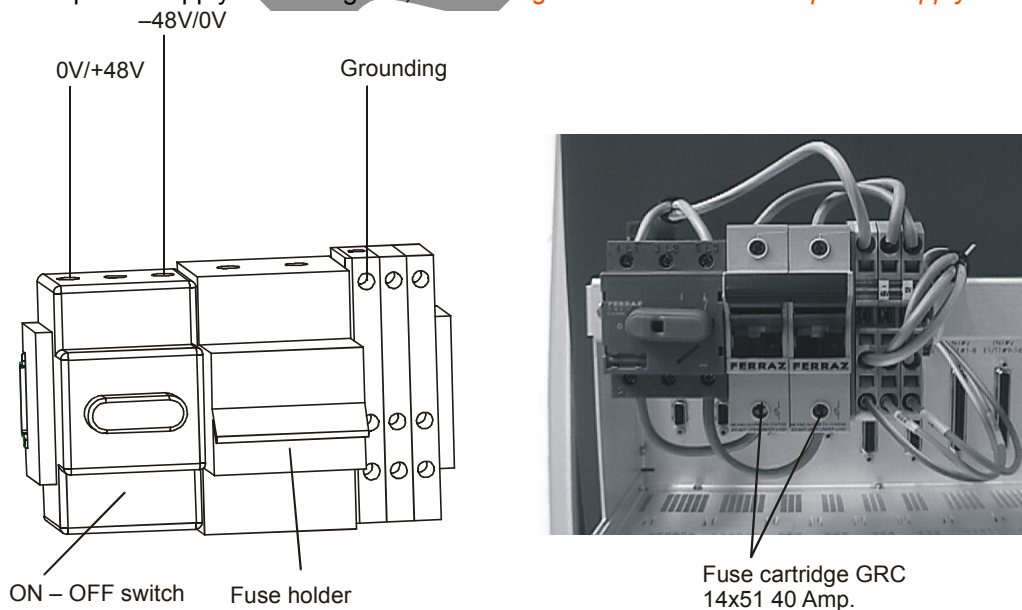

Figure 90 – DBS chassis power supply
- For the power supply block diagram, refer to *Figure 90 – DBS chassis power supply*.